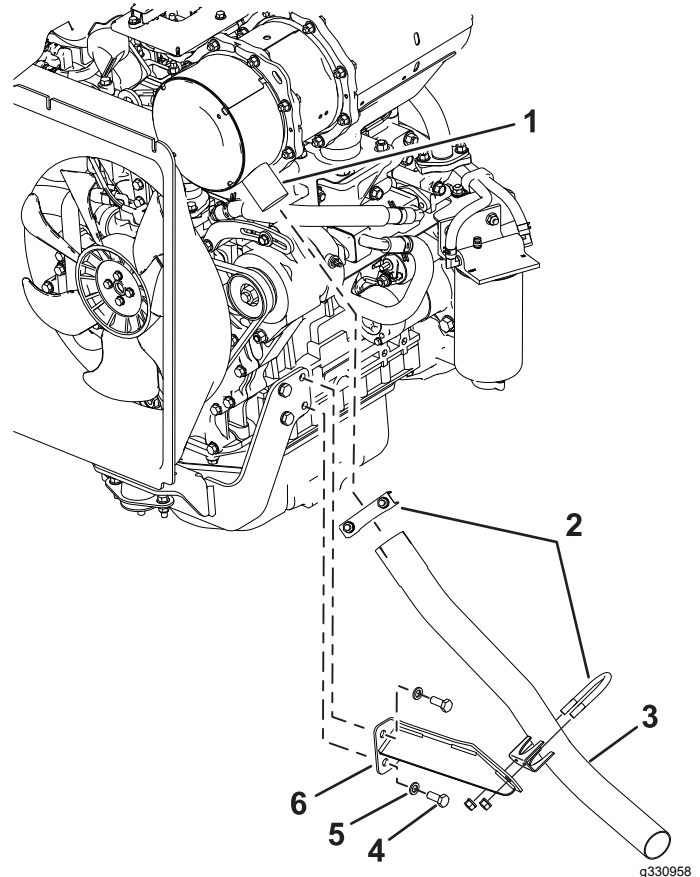

Figure 3
5. Slide the existing clamp over the new exhaust pipe and install the new exhaust pipe onto the DPF outlet (Figure 3).
6. Install the new clamp around the new exhaust pipe and to the support assembly with the clamp hardware (Figure 3).
4. Install the new support assembly to the side of the engine with the previously removed washers and engine bolts (Figure 3).
- Torque the engine bolts to 54 N·m (40 ft-lb) and then tighten all of the clamps (Figure 3).